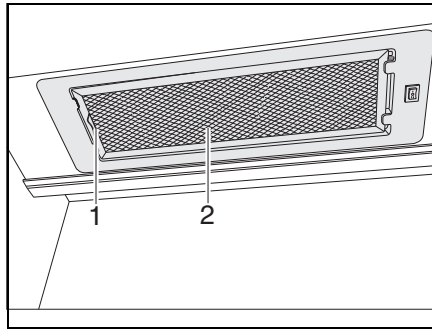

Fig. 146 Extractor hood
- Push the lever (Fig. 146,1) to the inside.
- Remove the filter (Fig. 146,2) downwards.